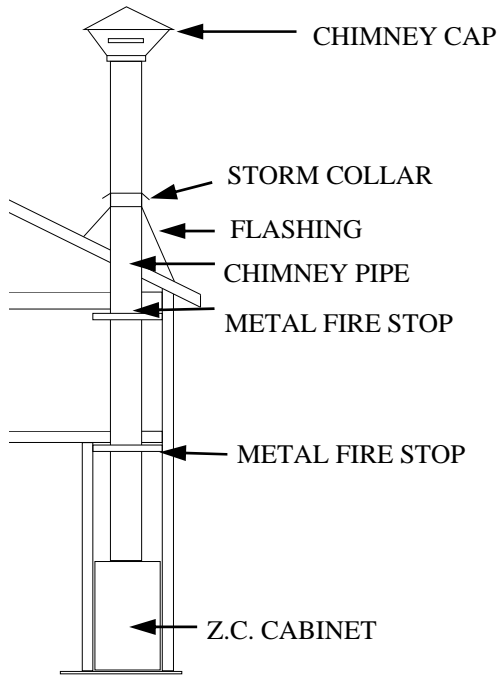
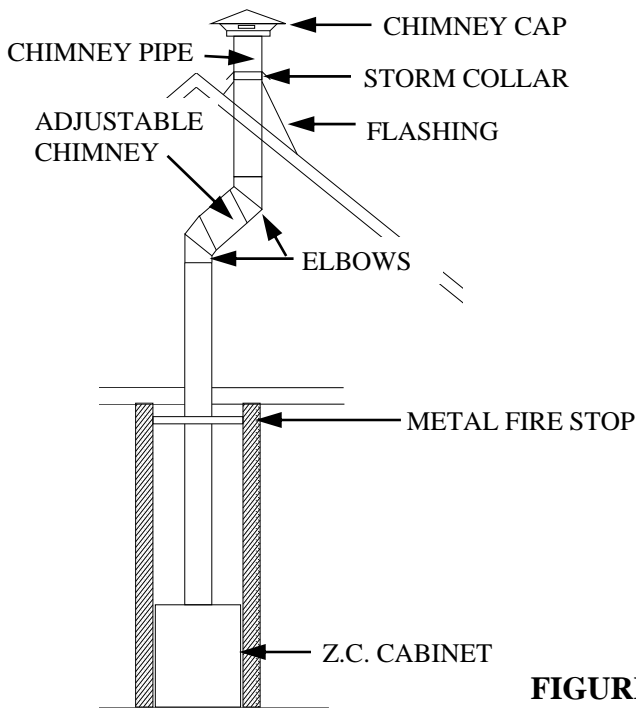

FIGURE 1 THROUGH CEILING
FIGURE 3 OFFSET TO CLEAR OBSTRUCTION
- A. Straight up through ceiling (See Page 4 Figures 1 and 2). This is a simple installation normally used when installing a Model 51ZC inside an existing room, and in some cases, in new construction. Refer to (Page 4 Figure 3) if an offset to clear an obstruction is needed.